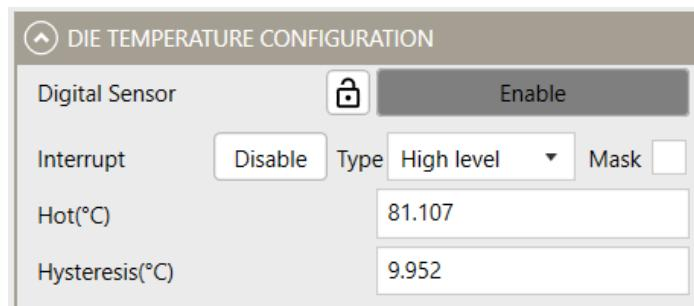

Figure 20: Die Temperature Configuration
- g. Higher Over-Temperature (OT): Defines the selection criteria for the NTC hot threshold when the battery pack current is within the standby current threshold. If disabled, select the hotter threshold; if enabled, select the colder threshold.
- h. Lower Under-Temperature (UT): Defines the selection criteria for the NTC cold threshold when the battery pack current is within the standby current threshold. If disabled, select the colder threshold; if enabled, select the hotter threshold.
15. Figure 20 shows how to configure the die temperature parameters.